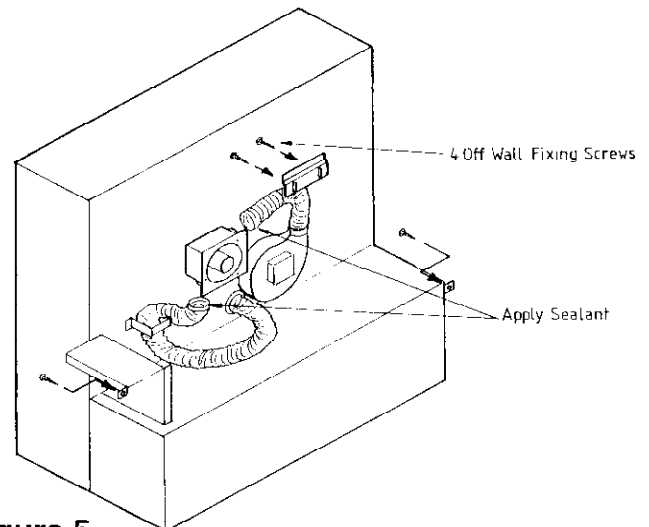

Figure 5
- 7.25 Hold the upper restraining bracket approximately 2mm below the line marked in 7.23 as shown in Fig. 5 and mark the positions for the two fixing holes.